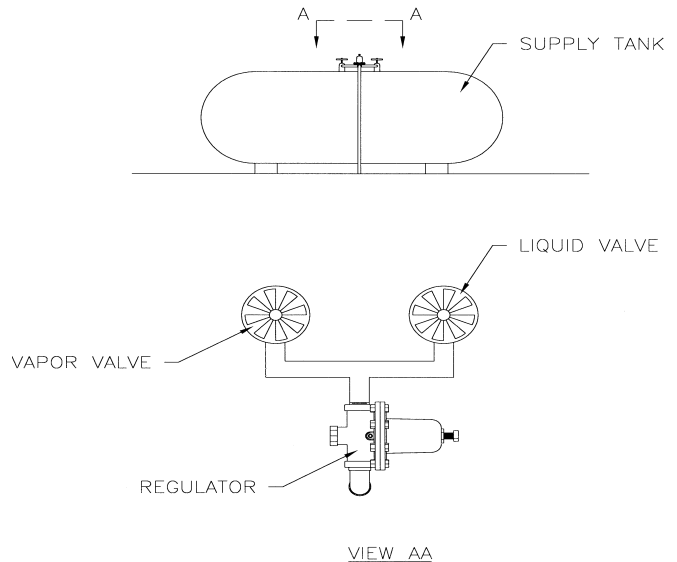

Figure 7. Propane Tank Plumbing Installation
5. The liquid valve and vapor valve on the propane tank should be connected as illustrated in **Figure 7**. This allows the operator to run the H28-LPGE, H24-LPGE or H33-LPGE on vapor or liquid propane.